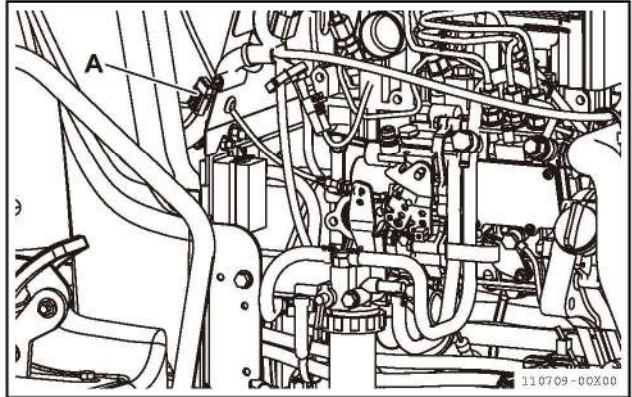

Fig 15-6
6. Locate the fuse, refer to the illustration shown (Fig 15-6).